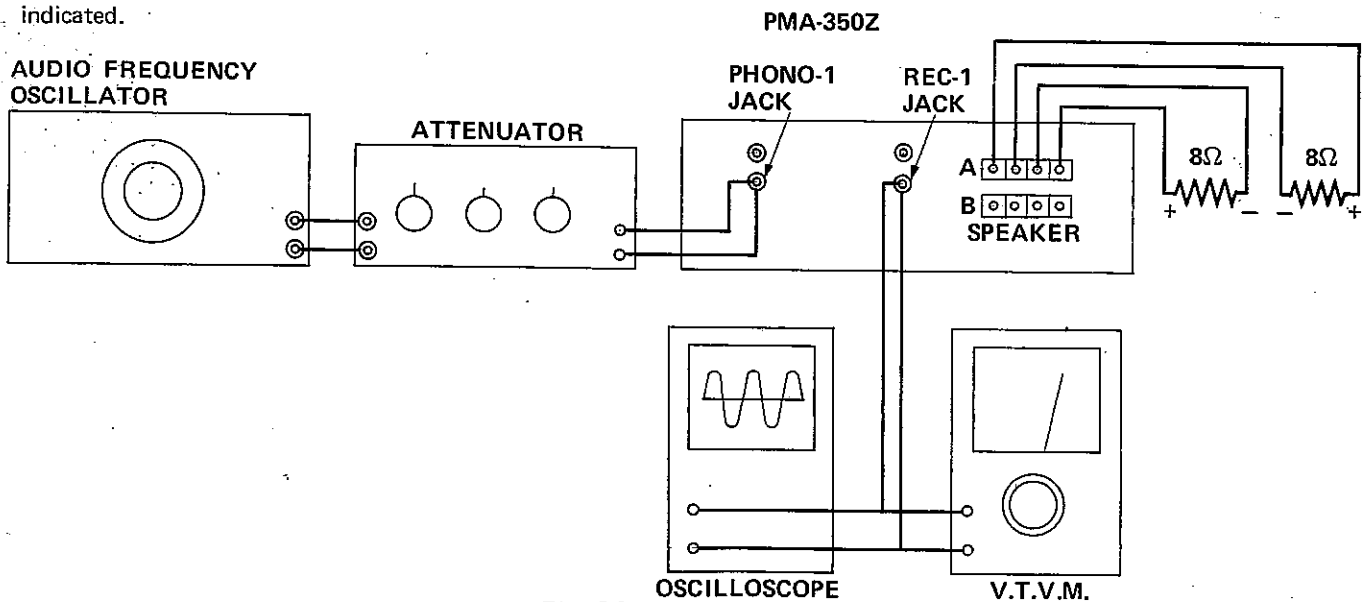

Fig. 24
- C. Figure 24 shows for testing PHONO-1 RIAA characteristic.
- D. Apply 1 KHz. input signal from the audio frequency sweep generator (or CR oscillator) and adjust the output level of the generator so that the power output (V) becomes 5 watts (6.3 volts). The level of the low frequency direct-viewing apparatus must be adjusted to 20 dB (When using V.T.V.M., 0 dB is set at 6.3 volts). Then set the sweep generator to AUTO. Be sure that level variation while sweeping at 30Hz. - 15KHz. is within  $\pm 1$  dB.